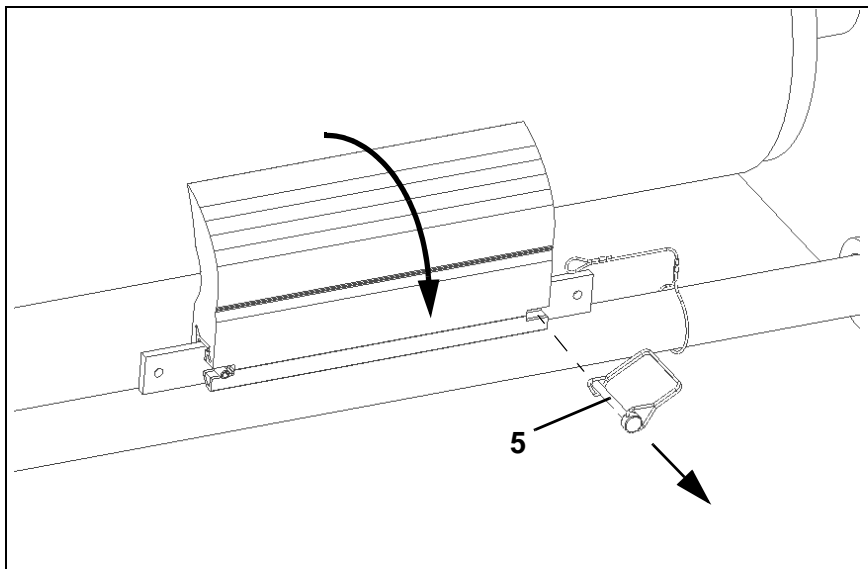

Fig. 9
4. Remove the pin hitch (5, Fig. 9).